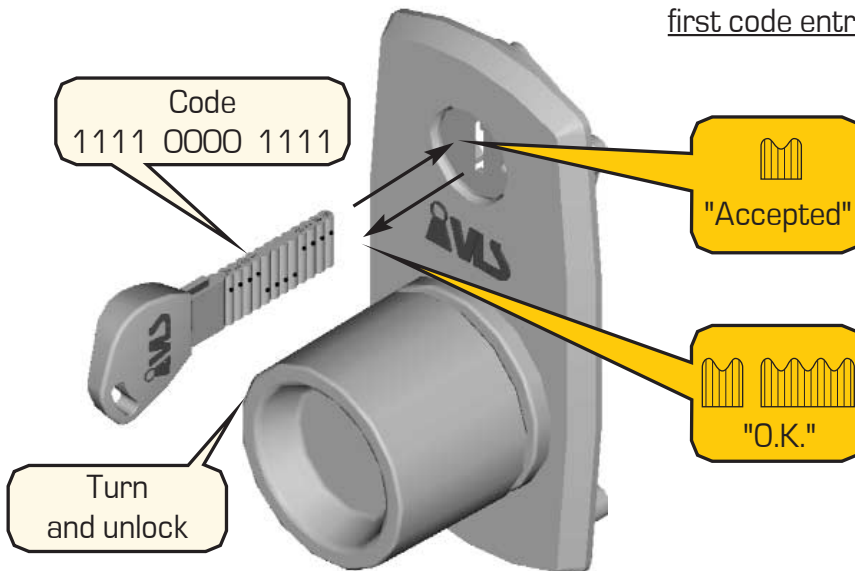

Figure 7 – Checking the lock: the second code entry
13. Having turned the handle from the keyhole side (fig. 7), make sure that the door is unlocked.